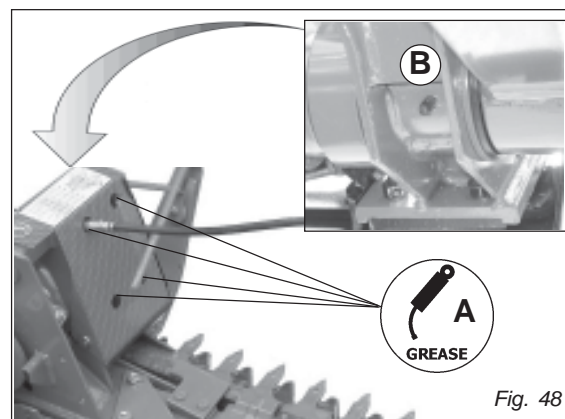

Fig. 48
- Grease points (A and B, Fig. 48).
- Grease point (A and B, Fig. 48).